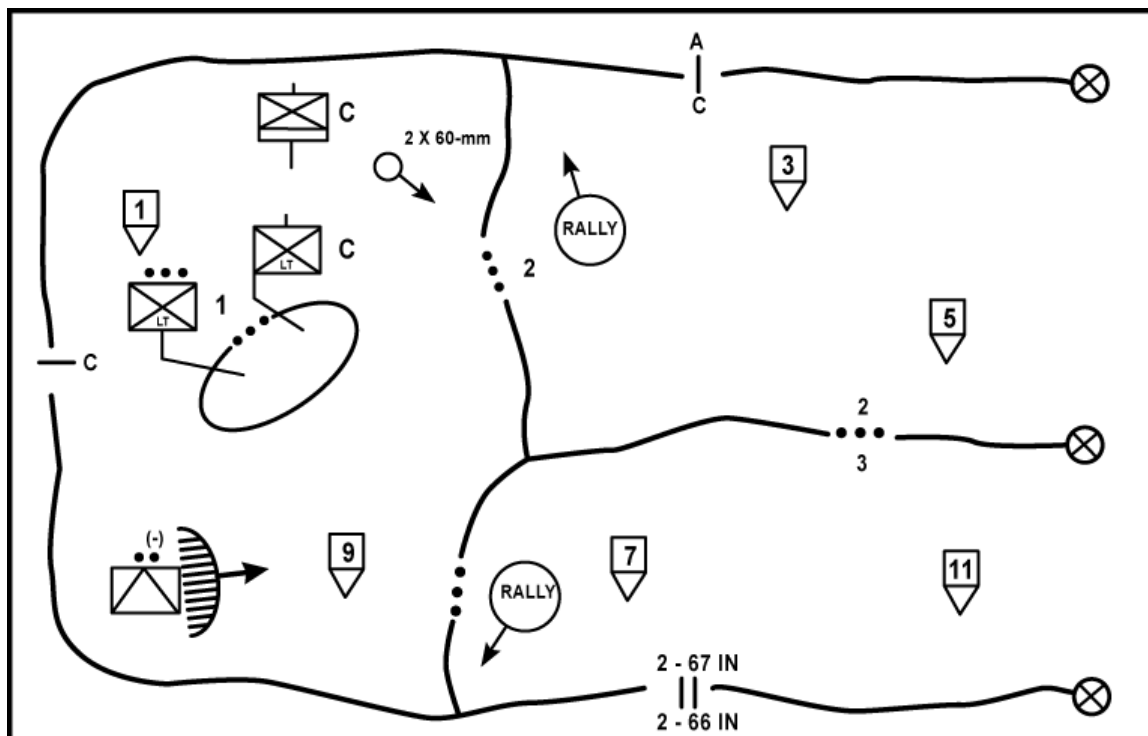

Figure G-1. Company operation overlay.
a. **Overlays.** Overlays are used to show both friendly and enemy information, such as indirect fire support; scheme of maneuver; mobility/ countermobility plan; air, small boat, or tactical road movement; logistics sites; and reconnaissance and surveillance plans. Separate overlays can be made for each plan, or the information can be combined on a single overlay unless this is confusing. Overlays are drawn to scale using the symbols shown in FM 101-5-1 (Figure G-1). Information shown on the overlay, except the mission statement, need not be repeated in the OPORD or FRAGO. Overlays can be combined with a written mission statement and an execution matrix (both written on the overlay) to produce a complete OPORD.